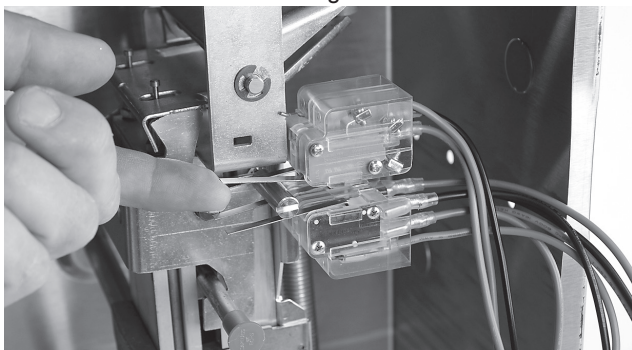

FIGURE 5-119
- a. Remove the lock pin. With the AUTOMAN release in the cocked or ready position, press the lever of each switch up. If the switch is working properly there should be an audible click. See Figure 5-119.